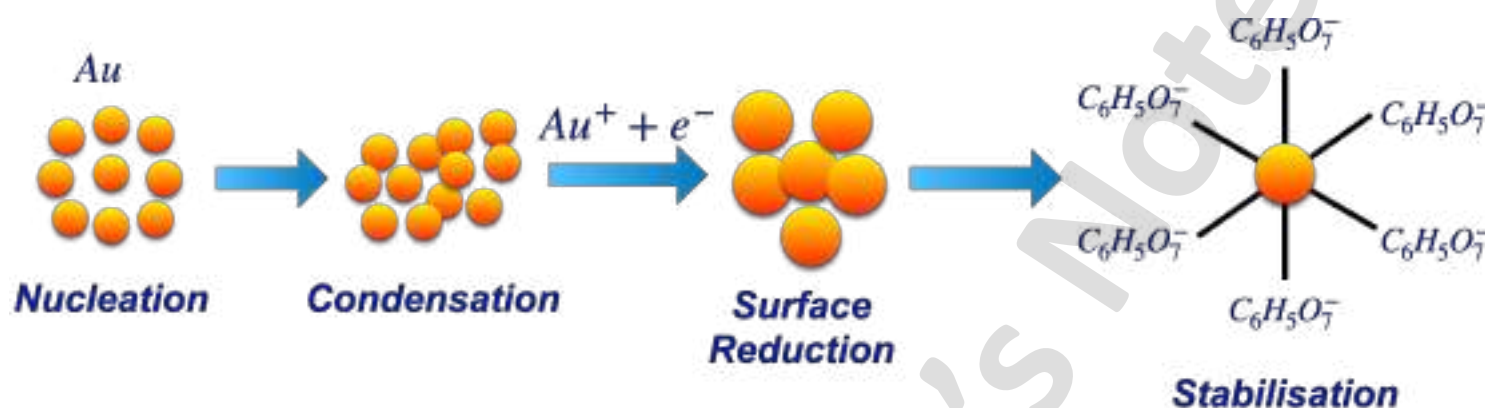

Fig. 32: Synthesis of Gold nano particles
- The formation of gold nanoparticles is shown in Fig. 32.